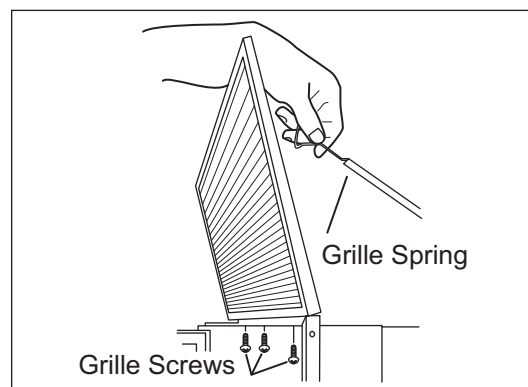

Figure 1
1. Open unit door(s) and extract three grille screws which pass up through top main frame extrusion into brackets at bottom rear of grille assembly (See Figure 1).
2. Tilt top of grille forward and release grille spring(s) from grille hook(s) at back side of grille (See Figure 1).
3. Lift grille assembly off (See Figure 1).